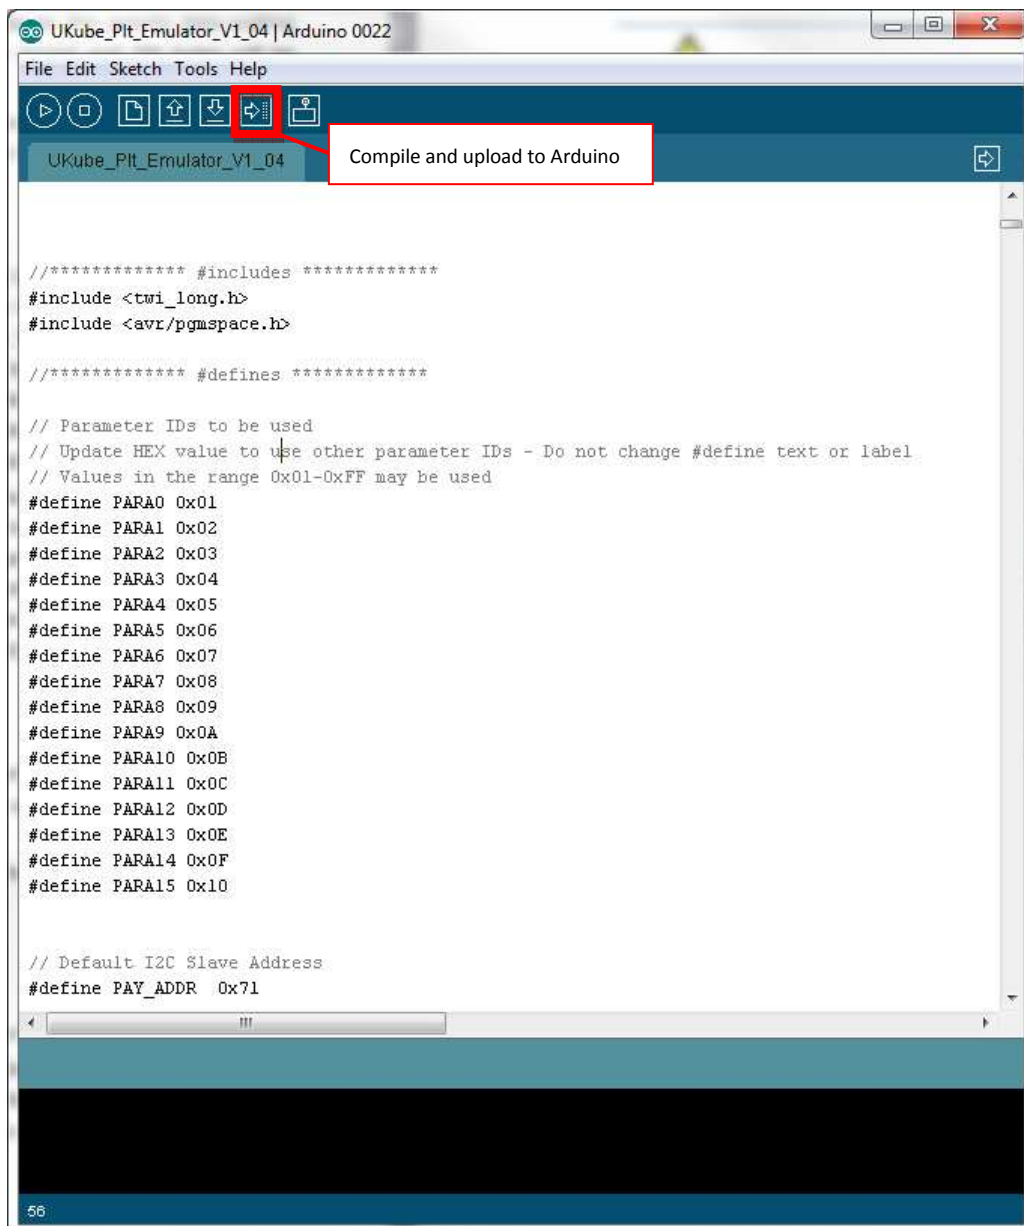

Figure 4-15 Modifying Parameter IDs
6. Press the program button highlighted in Figure 4-15.
11. Press the program button in the payload Arduino IDE window (highlighted in Figure 4-15).